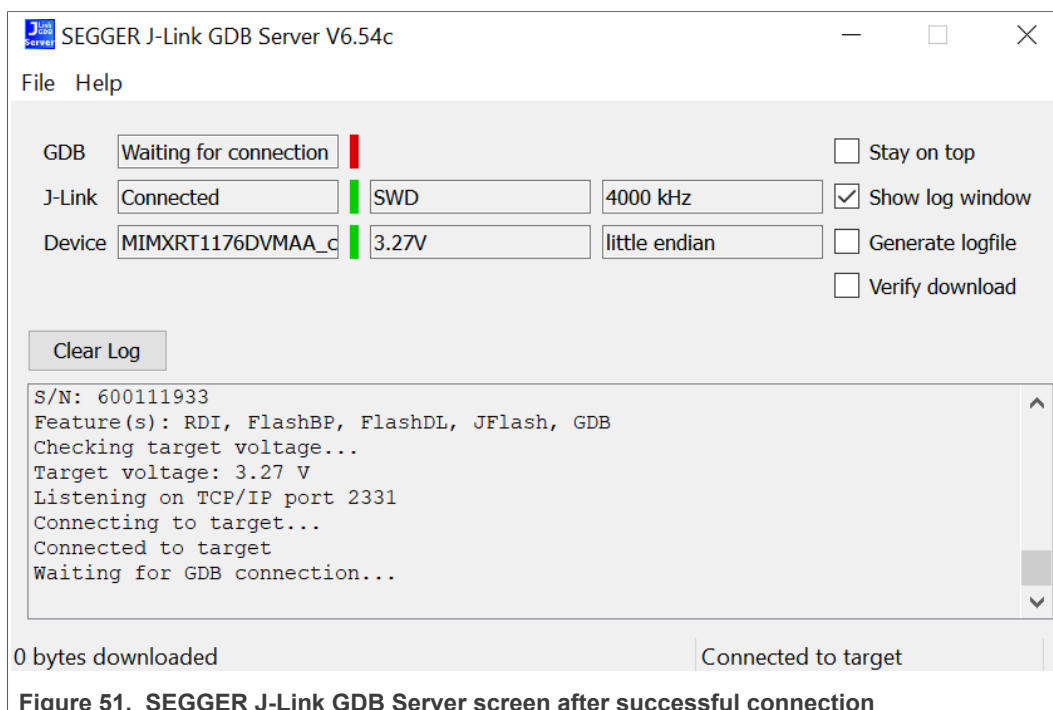

Figure 51. SEGGER J-Link GDB Server screen after successful connection
6. After it is connected, the screen should resemble Figure 51.